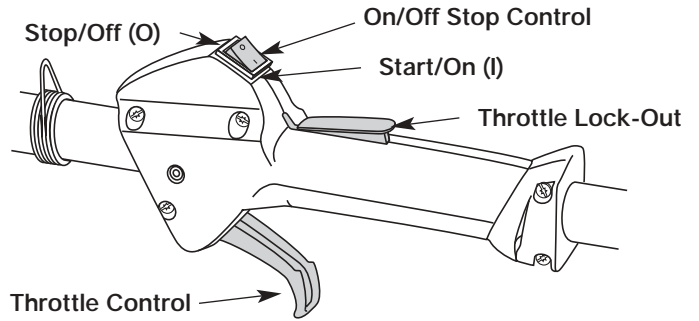

Fig. 16
2. Make sure the On/Off Stop Control is in the **ON (I)** position (Fig. 16).
2. Put the On/Off Stop Control in the **OFF (O)** position (Fig. 16).